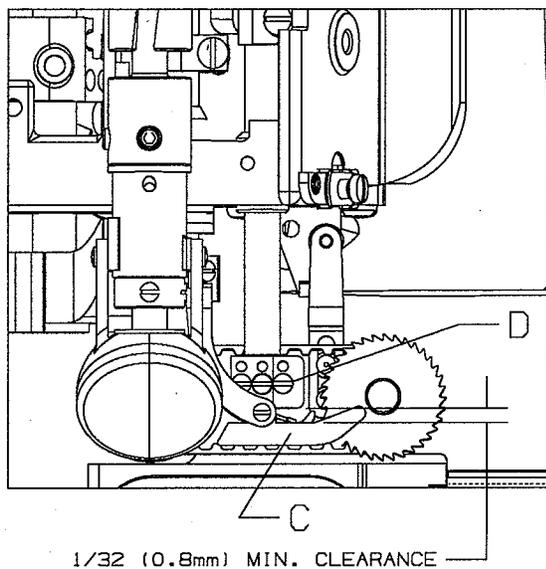

Fig. 1
Turn air supply off to presser foot air cylinder assembly (A). Loosen screw (E) on presser foot stop collar (F). Turn handwheel (G) until needle bar (D, Fig. 1) is at bottom of stroke. Lift presser foot (C, Fig. 1) up until there is $1/32''$ (0.8mm) clearance between needle bar (D, Fig. 1) and rubber washer (H) up until they contact underside of head. Retighten screw (E).